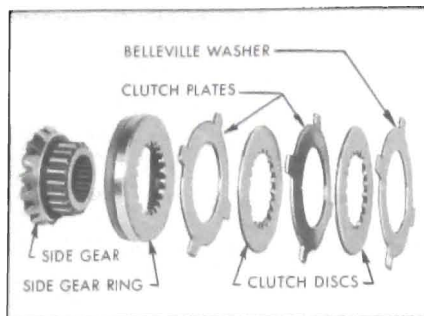

Figure 6-38—Clutch Pack
Each clutch pack consists of three clutch plates which are keyed to the differential case by external lugs, and two clutch discs which are splined internally to the side gear ring. The gear ring is splined to the side gear which is in turn splined to the axle shaft. Whenever a load is applied to the differential, each side gear ring is forced outward, squeezing its clutch pack against the differential case. See Figure 6-38.
4. Oil clutch plates and discs thoroughly with Special Positive Traction Lubricant and install clutch packs. If inspection showed plates and discs to be in good condition, install original side gear ring and clutch pack on each side gear according to Figure 6-38. If any plates or discs were defective, install two new clutch packs.